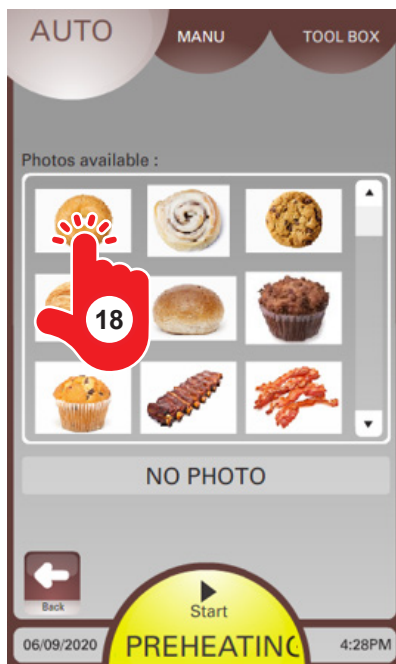

Fig. 19
18. Use the up and down arrows to view images. Touch the photo (Fig. 19) when you have made a selection.